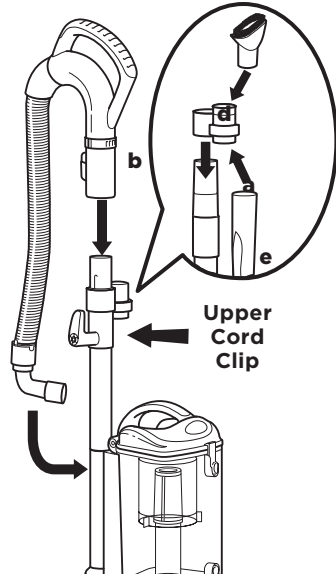

Fig. 9
- 4 Align the tab in the accessory holder **(a)** with the groove in the wand, then slide the holder down over the wand. **(Fig. 9)**
- 5 Insert the handle **(b)** into the top of the wand until it clicks into place. **(Fig. 9)**
- 6 Insert the end of the stretch hose with elbow connector **(c)** into the back of the canister. **(Fig. 9)**
- 7 Store the dusting brush **(d)** and the crevice tool **(e)** on the mounts of the accessory holder. **(Fig. 9)**